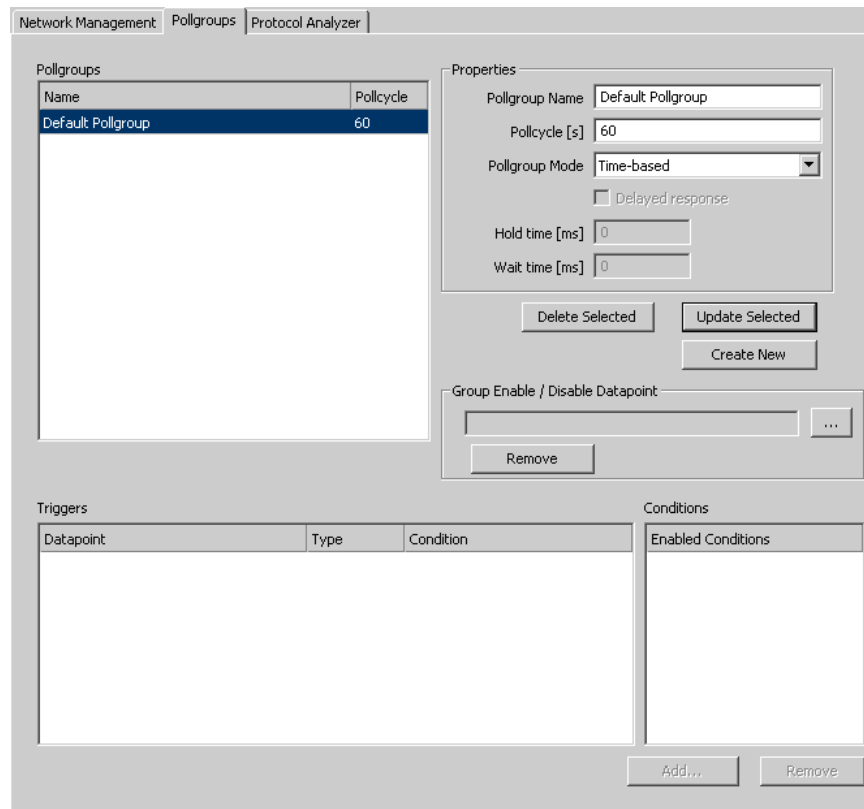

Figure 200: Pollgroup Management dialog.
2. Open the **Pollgroups** tab. This shows the dialog displayed in Figure 200.
2. In the **M-Bus Management** dialog, open the **Pollgroups** tab. This displays the poll groups management tab displayed in Figure 200.